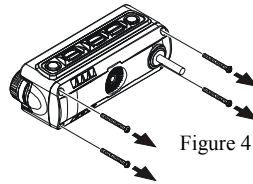
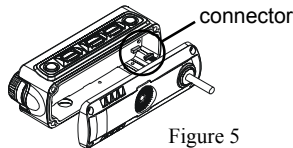

Figure 4
Figure 5
4. Remove the four screws securing the Rear Case of the Front Panel and remove the Rear Case from the Front Panel (Figure 4). Disconnect the Connector of the Connection Cable from the Printed Circuit Board in the Front Panel when you remove the Rear Case (Figure 5).